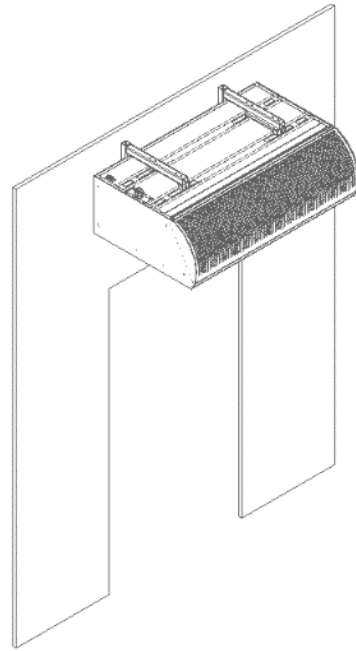

Fig 3b
- Step 2** Raise the unit up from below using suitable lifting means and secure to the wall brackets using the supplied M6 bolts (Fig 3b).